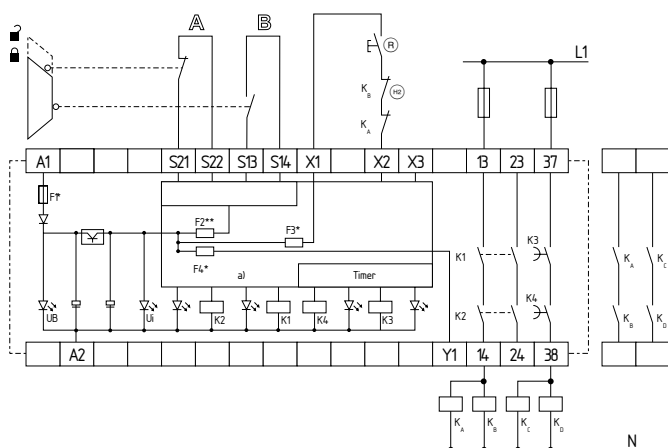

Fig. 8
**Dual-channel control, shown for a guard door monitor; with two contacts A and B, where at least one is a positive break contact; with external reset button  $\textcircled{R}$  (see Fig. 8)**